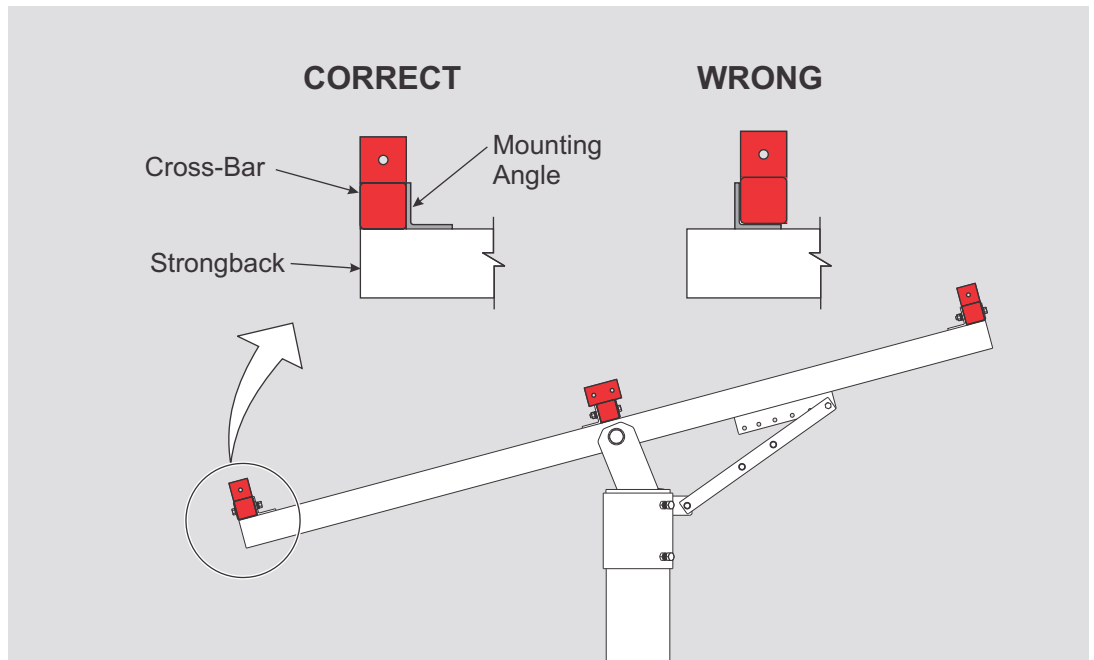

Figure 3-2: Cross-Bar Positioning relative to Mounting Angles
Cross-Bars are mounted to the outside of the Strongback mounting angles (these are welded to the Strongback). They are not nested into the Mounting Angles. (See Figure 3-2)
- C. Follow these steps to install the center and north most Cross-Bars to the Strongback. Refer to Figure 3-2 as needed for proper positioning.